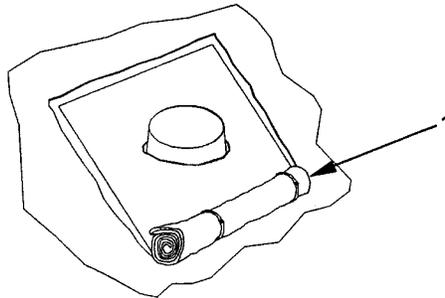
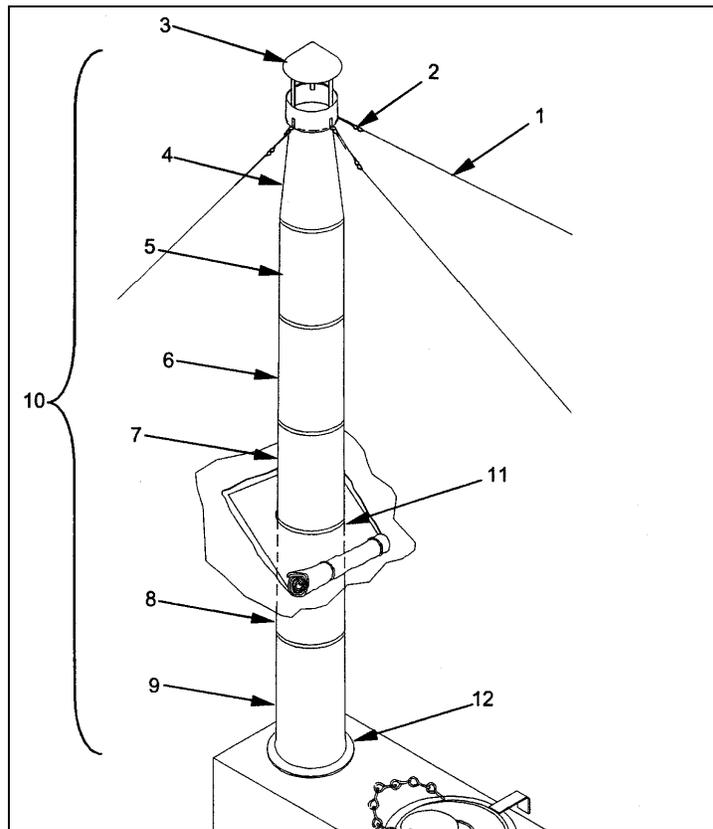

Figure 5
Figure 6
(7) Before operation perform the "Before Operation PMCS" on all SHA system components as outlined in the TM, prior to preparing the heater for use. All scheduled maintenance must be performed on the heater and its associated equipment prior to use.
(8) Set up the heater inside its operating space (shelter). The area selected must be level and free of debris and flammable materials.
(9) Assembly of the stack assembly:
- (See Figure 5) Securely roll and tie exhaust opening closure flap (1) so it will not touch stack assembly during heater operation. Assemble stack section (See Figure 6), (8) and (9) (stamped 1 and 2), ensuring that the seams are lined up. Place the largest diameter stack section (stamped 1), into the heater. Set the heater directly under the shelter exhaust opening.
- First time set up only. (See Figure 6) Tie one end of each shelter line (1) to each wire rope (2) on stack cap (3). Set this assembly aside.